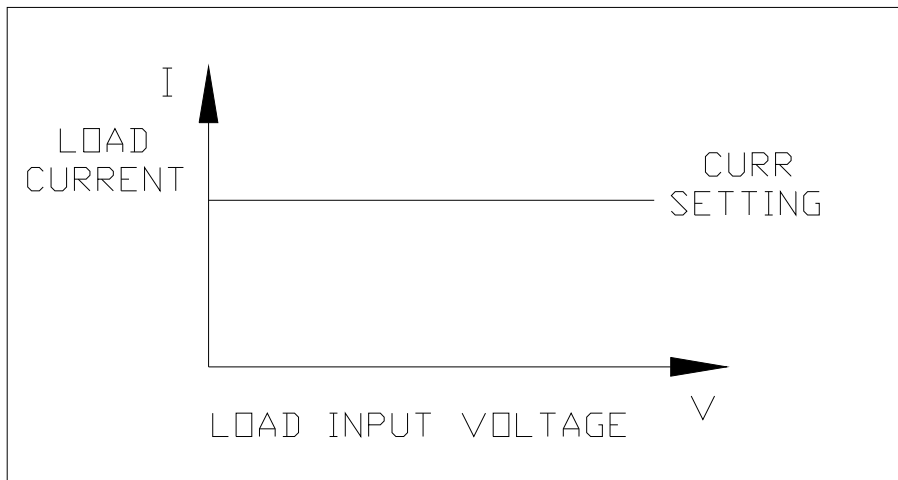

Figure 3-3 Constant Current Mode
In CC mode two operation functions (STATIC, DYNAMIC) can be selected. STATIC function checks the stability of output voltage from a power supply. In some modules (single channel/module) there are two current levels (A or B) for static function. Both states A and B use the same range. You can select A (CCL1 or CCH1) or B (CCL2 or CCH2) through the **A/B** key on the module's keypad or Mainframe keypad when level1 (A) or level2 (B) changes. Slew rate determines the rate at which Load level changes from one load level state to another. Figure 3-3 shows current level of load module after pressing of **A/B** key.